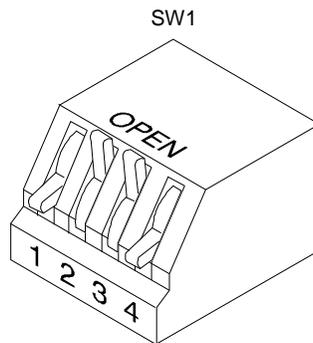

Figure 9-5. Switch Settings for the 486 CPU Circuit Card
Switches are set by the manufacturer. Refer to Figure 9-5 to verify the correct switch settings on the 486 CPU card.
3. Set the jumpers using the proper settings as shown in Figure 9-5. Refer to Table 9-1 for a summary of the jumper settings.